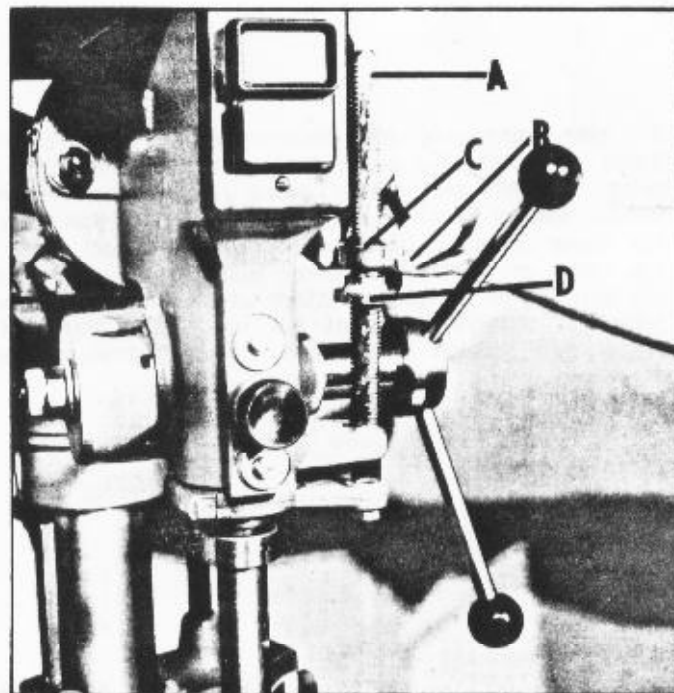

Fig. 12
When drilling one or two holes to a predetermined depth, the calibrations on the face of the depth stop rod (A) Fig. 12, can be used.
1. Loosen thumb screw (B) Fig. 12, and raise the locking sleeve (C). Turn the micro-nut (D) to the desired position on the stop rod (A).
2. Lower the locking sleeve (C) so it will engage micro-nut (D) Fig. 12. Lock sleeve (C) in place with thumb screw (B) if drill press is operated in other than vertical position.
3. When locking sleeve (C) is in place on the micro-nut (D) Fig. 12, the micro-nut cannot be turned. When a change in depth is required, the locking sleeve (C) must be raised, and while it is raised, turn the micro-nut (D) the necessary calibration marks. Each mark represents .002". Then lower the locking sleeve (C).